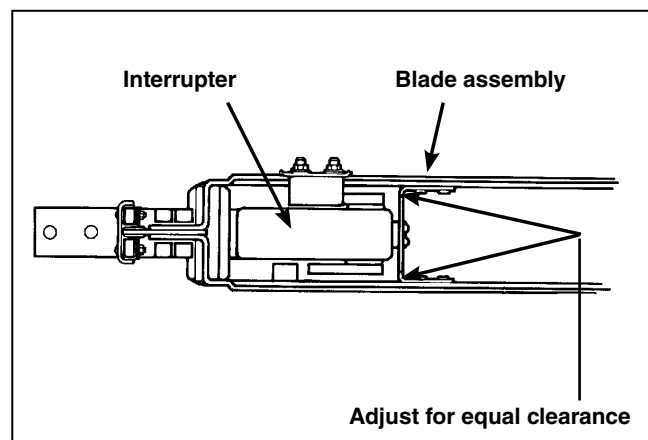

Figure 22. Blade assembly in the fully closed position.
- The interrupter must lie in a plane parallel to the sweep of the blades, and the blades must pass over the interrupter with approximately equal clearance on both sides. See Figure 22.